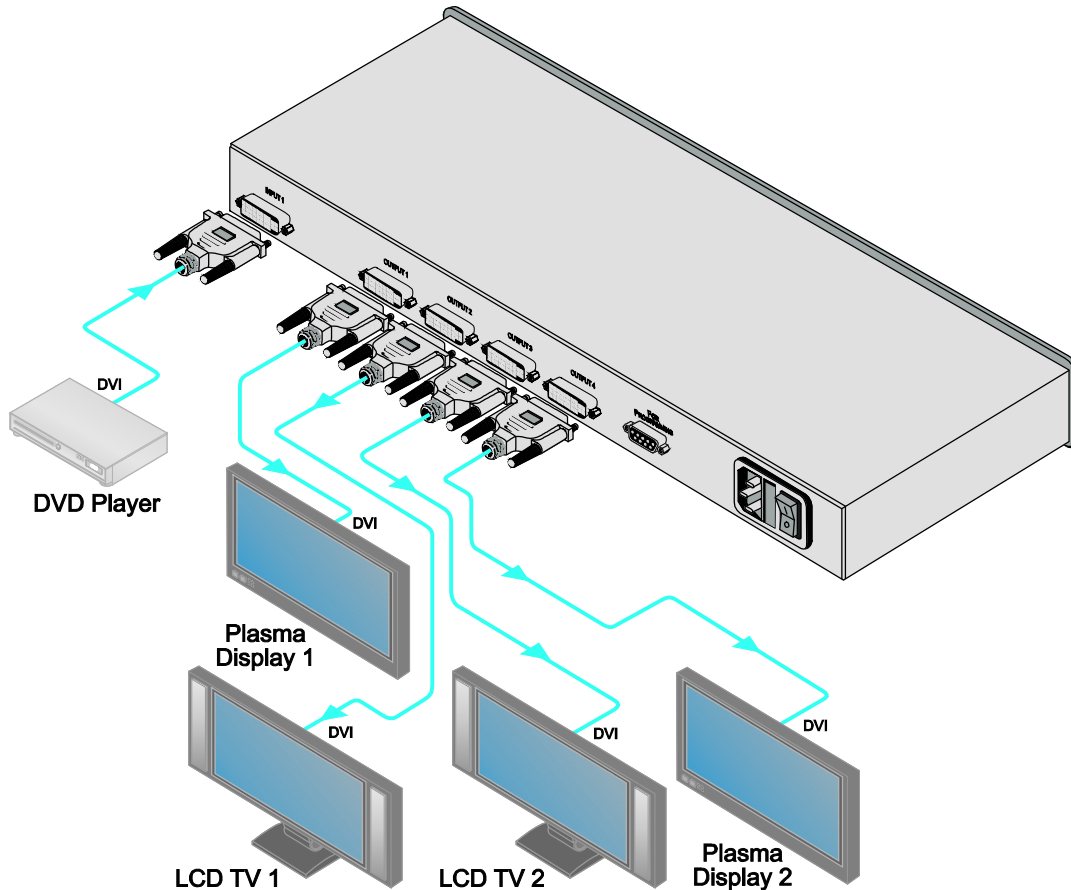

Figure 2: Connecting a VM-4HDCPx1 1:4 DVI Distributor
To connect the **VM-4HDCPx1**, as illustrated in the example in Figure 2, do the following¹:
3. Connect the power cord to the mains electricity (not shown in Figure 2).